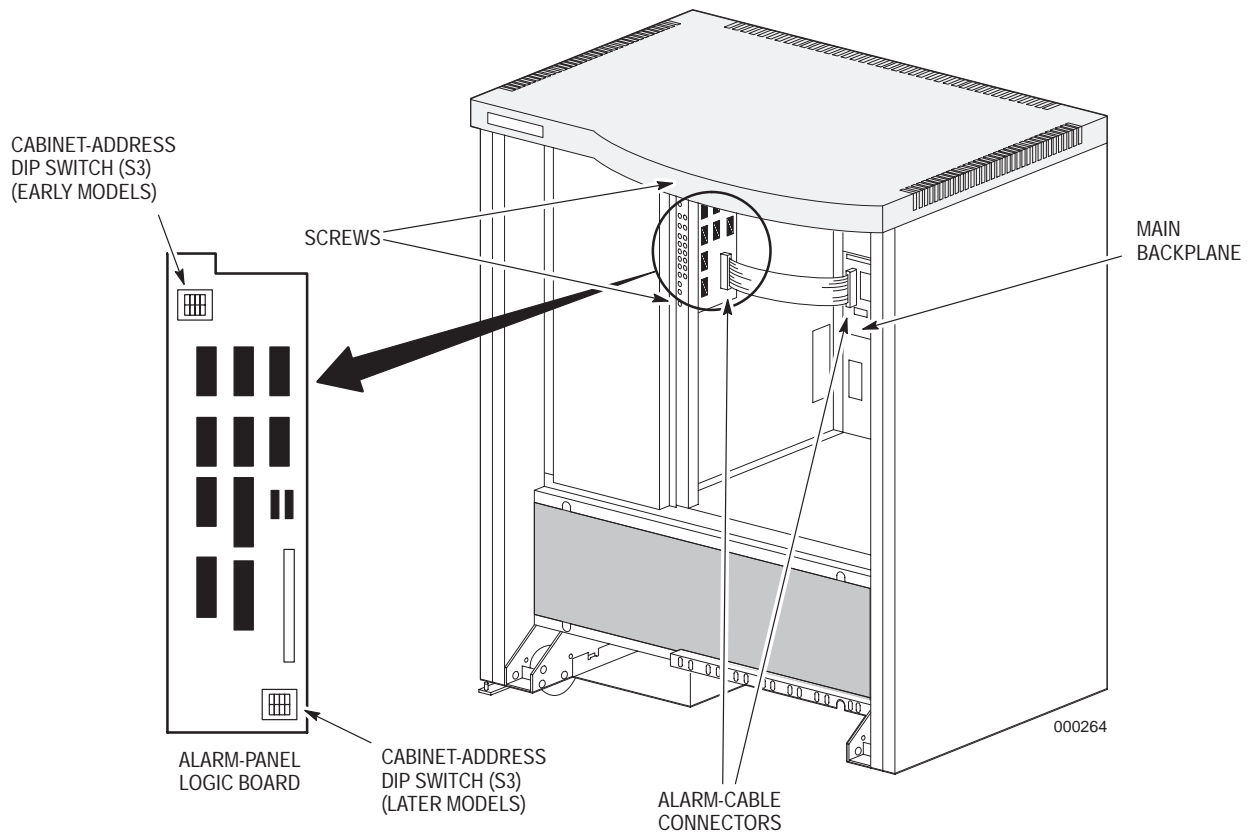

Figure 11-4. Location of Alarm-Panel Logic Board (Front View).
5. When the **ENTER BOOT COMMAND:** prompt appears, turn off the server power by switching the main-power circuit breaker on the back of the power distribution tray to the OFF position (0).
10. Remove the alarm cable from the alarm-panel connector, as shown in Figure 11-4.
13. Address the alarm board for the correct cabinet, by setting the cabinet-address dip switch, shown in Figure 11-4. Use the settings in Table 11-1 to address the dip switch for the appropriate cabinet.
16. Connect the alarm cable to the alarm-panel connector (Figure 11-4).